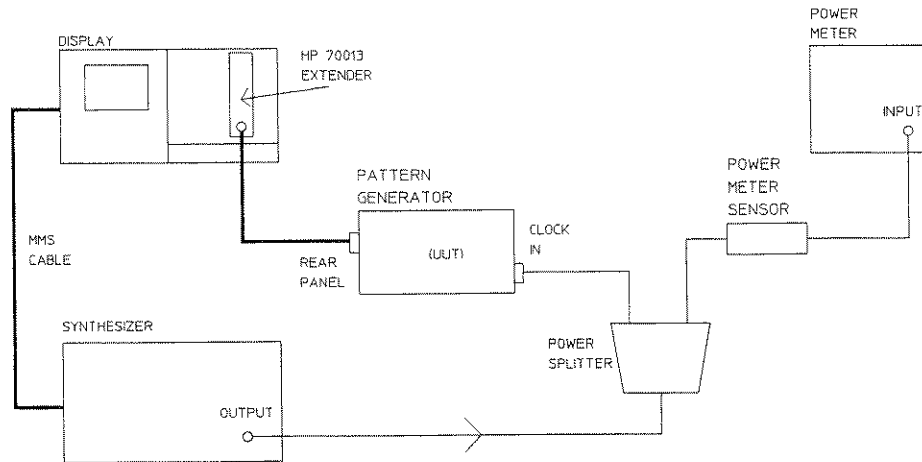

Figure 4-1. Clock AGC Power Measurement
1. Connect the equipment as shown in Figure 4-1